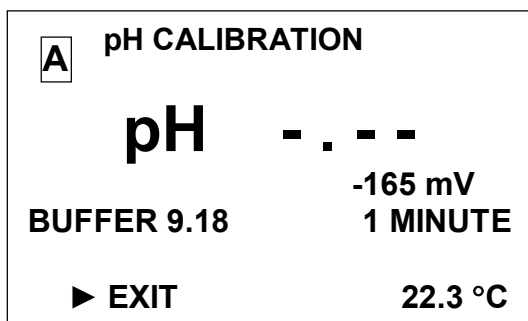

Fig. 2.18
- 13 Move pointer "▶" to **PERFORM** line and press "menu" button and the display shown in Fig. 2.18 shall come up.